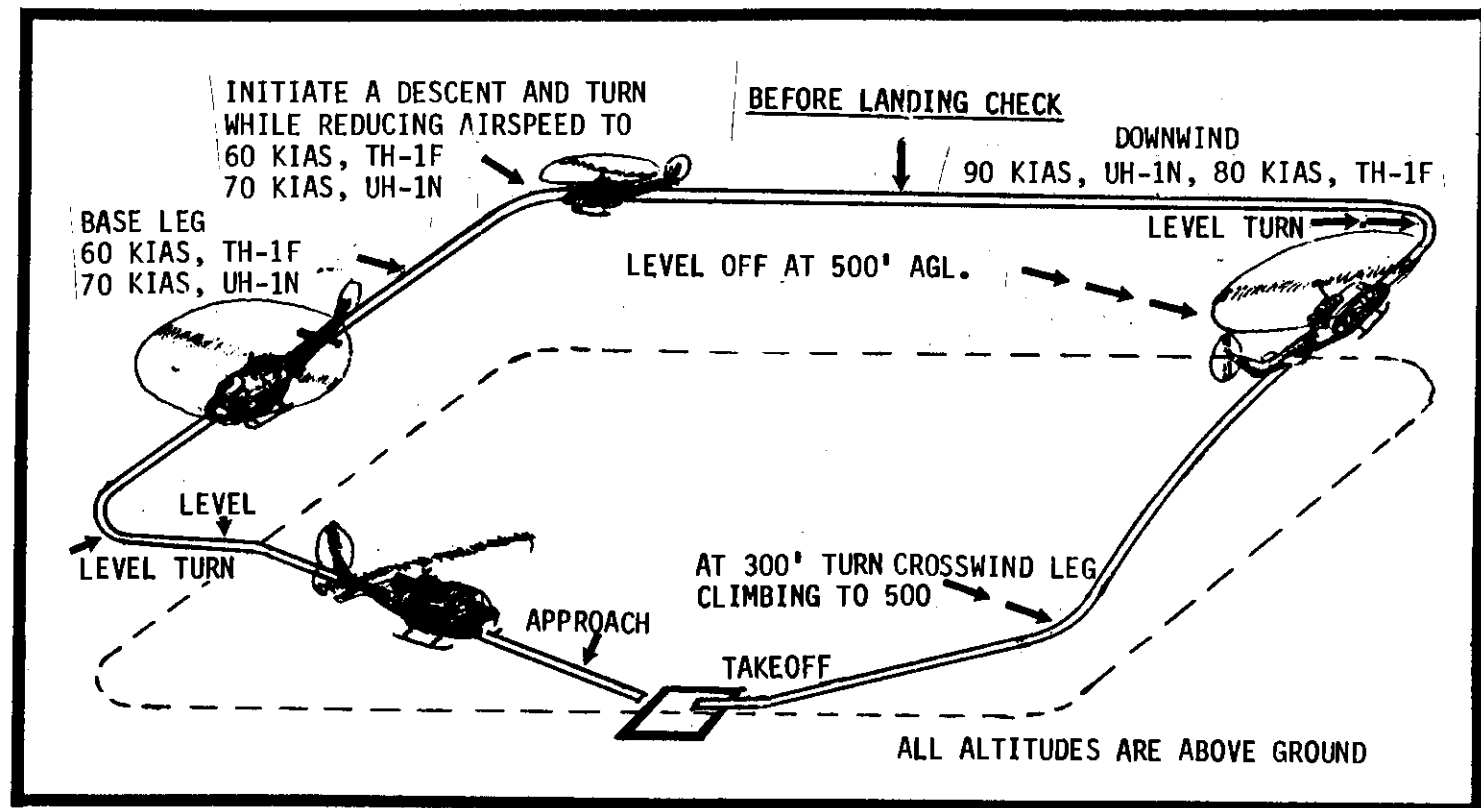

Figure 3-1. Normal H-1 Pattern
(2) Analysis. Enter the pattern on a 45° angle to the center of the downwind leg, or as directed by the controlling agency, and accomplish the Before Landing Check (see figure 3-1). Maintain a straight ground track in the traffic pattern by use of the crab method. Immediately prior to turning base, clear, then start a descending turn, leveling off at 300 ft AGL and 60 KIAS TH-1F/70 KIAS UH-1N. Make a level turn to final approach to use the first available, or tower assigned, pad. Crosswind correction will be accomplished by using the wing low method on takeoff until a climb is established and during the final 50 feet AGL portion of the approach. At other times, the crab method will be used. Perform clearing turns as required prior to initiating any takeoffs. For all other takeoffs, visually clear to the sides and overhead before increasing collective. Following a takeoff, turn to crosswind after reaching a minimum altitude of 300 feet AGL and continue to climb to level off at 500 ft AGL. On level off, lower the nose to accelerate to pattern airspeed prior to reducing power. In the UH-1N, a partial reduction of power may be required when lowering the nose for level off in the traffic pattern. Once the aircraft is leveled at traffic pattern altitude, further reduce power to maintain desired airspeed. When departing the pattern, turn 45° away from traffic on the crosswind leg. Be sure to visually clear the area before entering any turns, (see figure 3-1.)